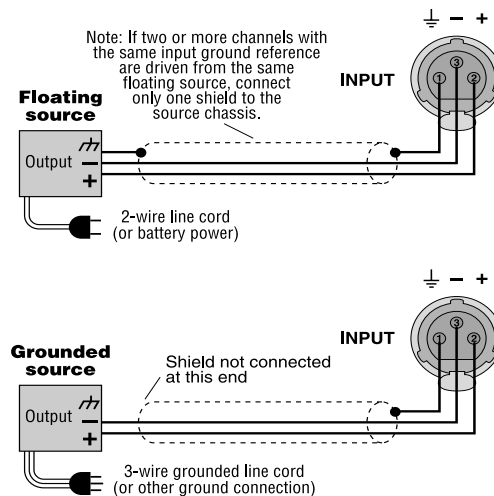
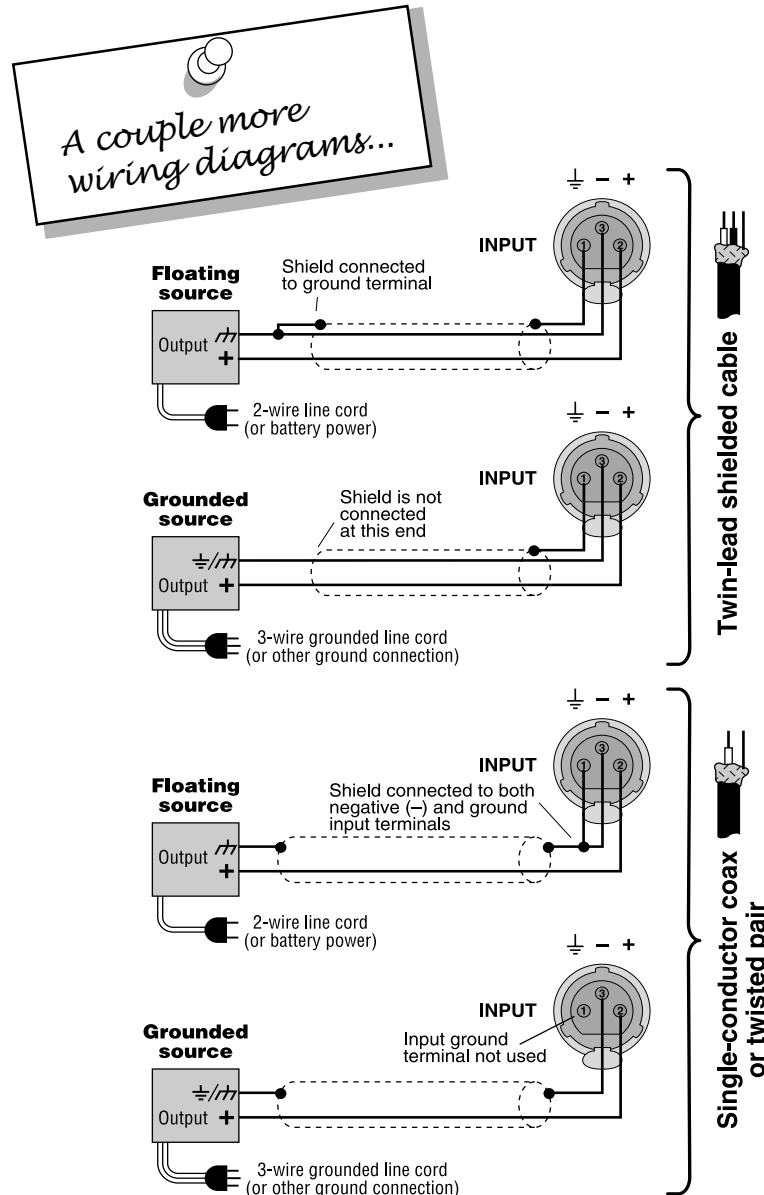

Fig. 4.2 Balanced Input Wiring
Fig. 4.3 Unbalanced Input Wiring
If you have noticeable hum or buzz in your system, you may want to check your cable connections to see if the unwanted noise is being introduced via a ground loop. To determine the proper wiring, first check whether the output from your source is unbalanced or balanced (if you don't know, refer to the unit's back panel or instruction manual). If the source is balanced, refer to Figure 4.2; if it is unbalanced refer to Figure 4.3. Next, determine if the source's power cable is floating (ungrounded, 2-prong) or grounded (3-prong). Finally, if the source is unbalanced, check the type of wiring: twin-lead or single coax.
2. Unless you are interfacing to a microphone, the shield of the cable should only be connected at one end. (See Fig. 4.2.)
Check Figure 4.2 to see if your cable has been wired with the proper shield and ground connection. If the cabling is incorrect, you may be able to avoid the ground loop (and associated hum) by plugging all of your equipment into the same AC circuit (on the same breaker). If this is impractical, you will need to fix the cable to match the appropriate illustration. Or you may want to simply replace the offending cable with a commercially manufactured cable of the appropriate type.